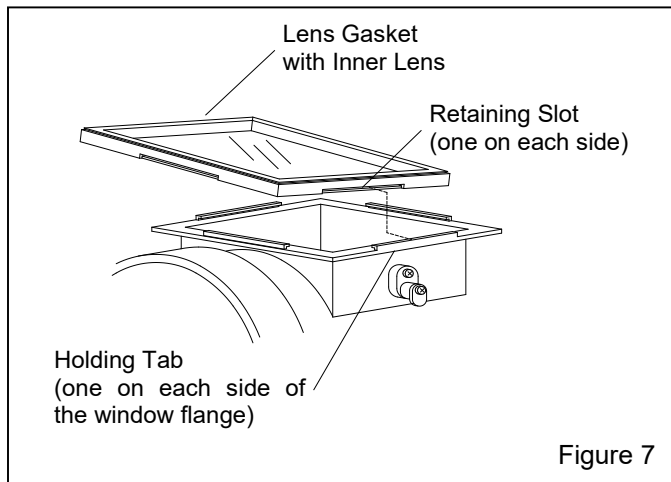

Figure 7
9.3 Remove and Replace the Inner Lens and Window Gasket – Figure 7
9.3.2 Pull the lens gasket and inner lens off the window-opening flange. The gasket is held in place by tabs on the flange that fit into slots on the gaskets, as shown in Figure 7.